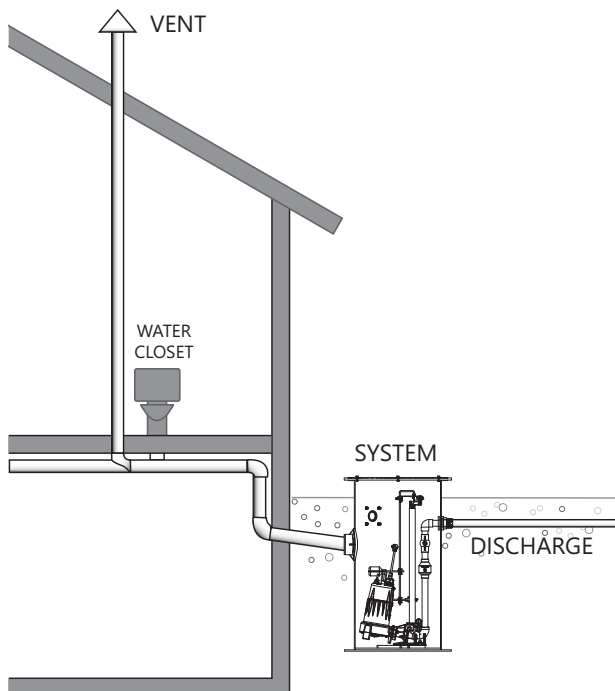

Figure 10. Example Venting-Alternative Method
- B. Vent:** On vertical discharge Pro370 and 380-Series models, a threaded 2" or 3" connection is provided on top of the cover. The vent must be piped to the existing building vent, or extended outside on its own standpipe. On both side and vertical discharge systems, the vent size should be in accordance with applicable codes, but not less than the discharge size. See Figure 10 an example of venting through the inlet pipe as an alternative solution.